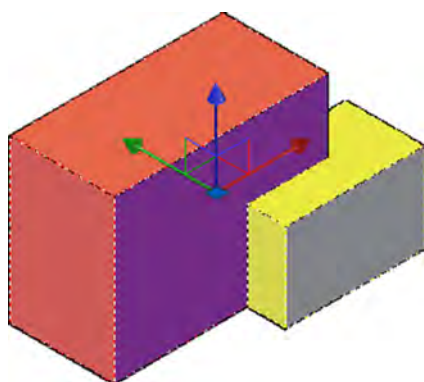
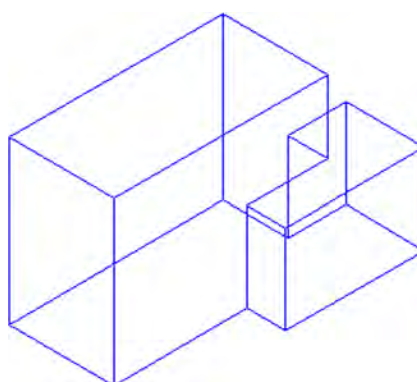

FIGURE 23.3
FIGURE 23.4
Step 2. Select both cubes (they turn dashed) and press Enter. Both cubes now are fused, as seen in Figure 23.3. Notice how the grips reflect one entity, not two. Go ahead and move the objects; they move as one. This becomes even clearer if we switch to wireframe (Figure 23.4), with a color change for additional clarity.